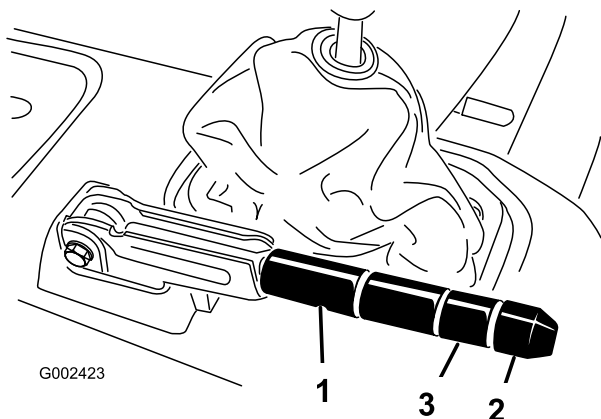

Figure 58
2. Loosen the set screw securing the knob to the parking brake lever (Figure 58).